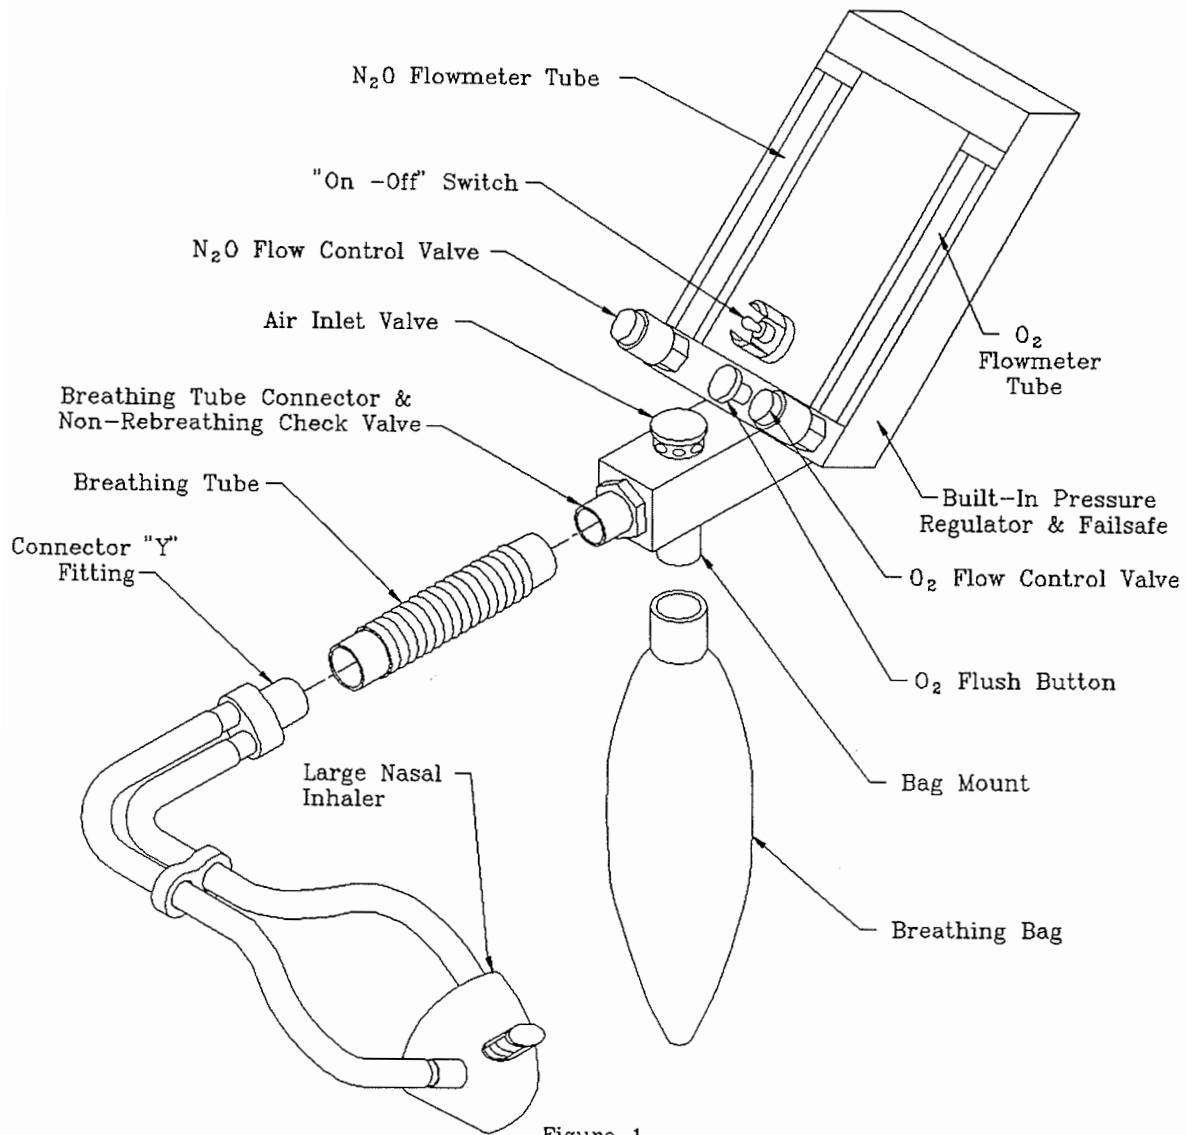
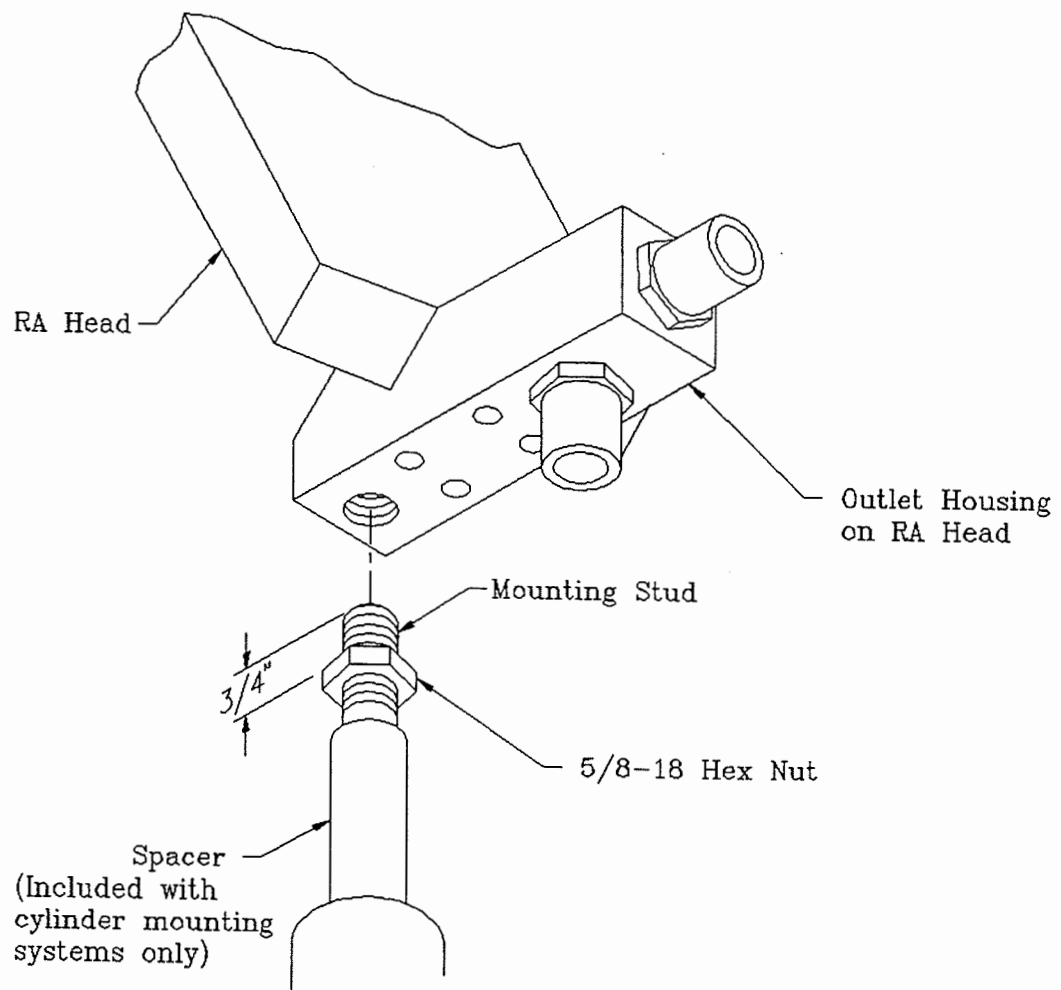
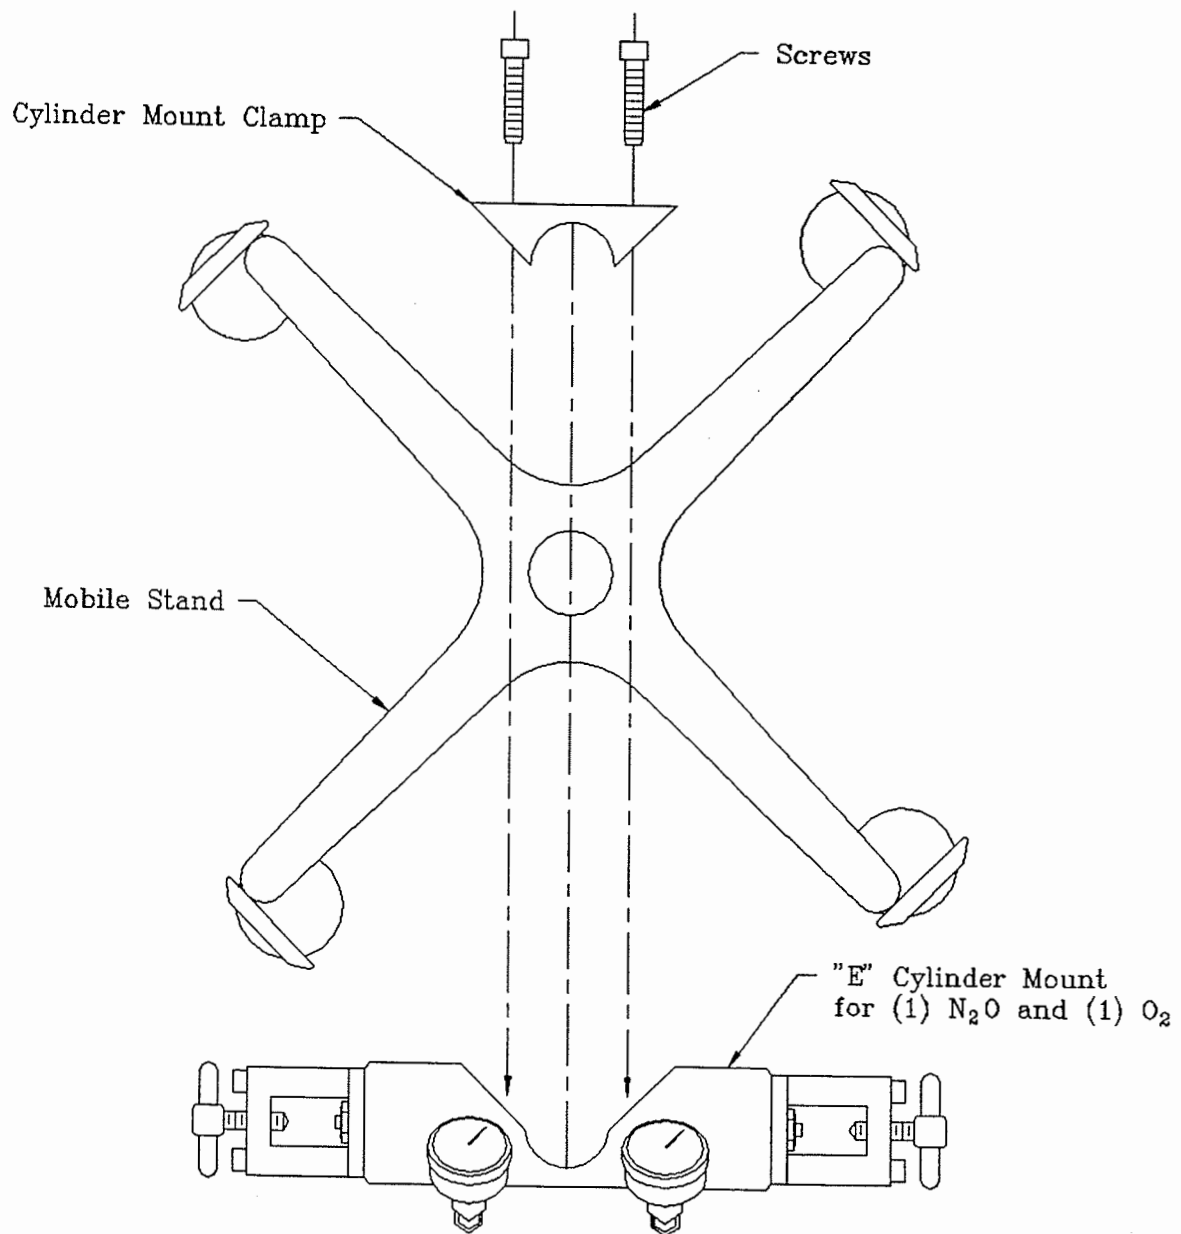
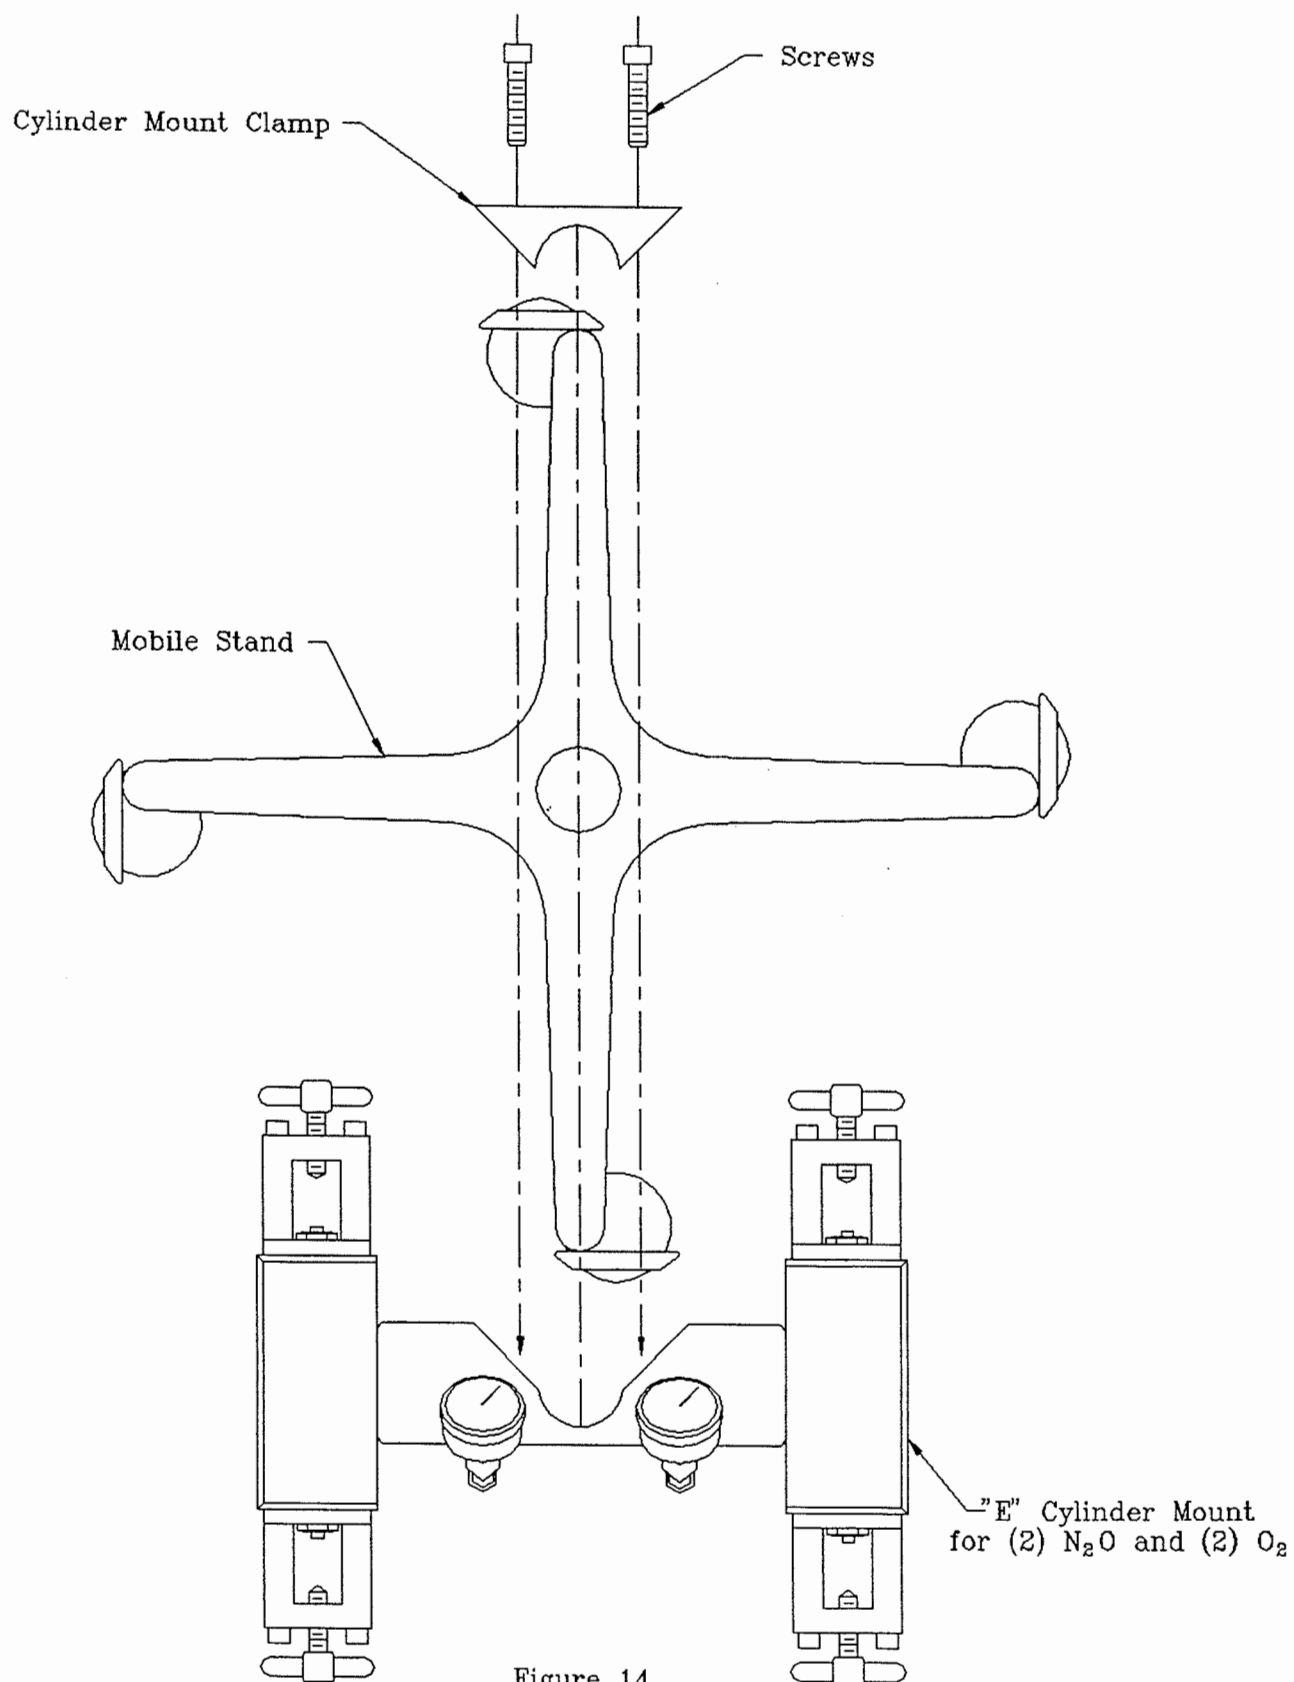

Figure 1
Figure 11
Figure 13
Figure 14
The following assembly procedure is common for all RA models supplied with conventional rubber goods (see fig 1):
3. Attach rubber goods as per Figure 1 and 2.
- E) Attach rubber goods as per fig. 1 and 2 of this section.
- A) Thread hex nut onto mounting stud until at least $\frac{3}{4}$ " of thread is exposed above nut on stud. (See fig 11).
- B) Thread stud into $\frac{5}{8}$ - 18 tapped hole located on bottom of the outlet housing of the analgesia head. Thread in until nut is reached. (See fig 11).
- F) Connect rubber goods as per figures 1 and 2.
- B) Assemble head to stud as outlined in Figure 11 and set this assembly aside.
- C) Screws and cylinder mount are included in the yoke block assembly. The assembly procedure for either a 2 cylinder or 4 cylinder mount is the same. Refer to Figure 13 for 2 cylinder mount and figure 14 for 4 cylinder mount. Looking at the mobile stand from the top, orient the legs as shown in Figure 13 or 14.
- E) Looking from the top, locate the oxygen side of the mount as indicated in Figure 13 and Figure 14.
- I) Refer to Fig. 11 and mount head/stud unit. Refer to Figures 1 and 2 and Figures 13 and 14 and rotate head/stud assembly such that the oxygen flow tube of the head is on the oxygen side of the cylinder mount assembly.
A) Refer to Figure 1 and 2 and attach rubber goods as required.